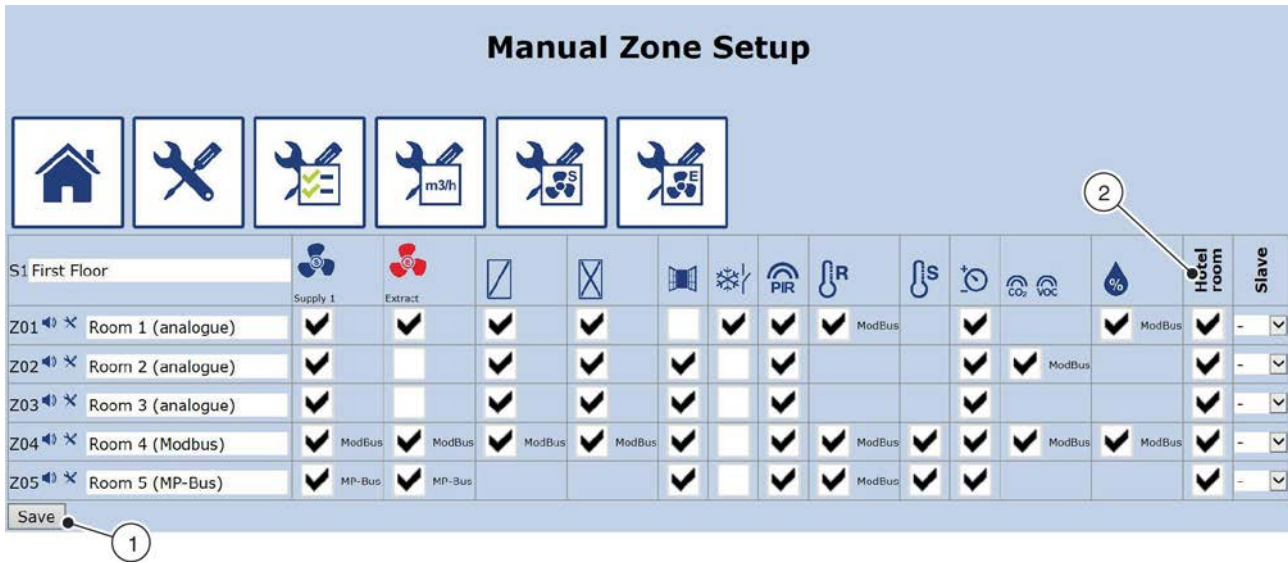

Fig. 40: Hotel mode
The 'Zone Setup' screen (Fig. 40) allows you to enable the hotel mode for individual zone modules. In hotel mode the temperature setpoint values for each guest room are reset every day to the temperature setpoint defined in the zone master. The reset time should also have been defined in the zone master. Once you have enabled the hotel mode for a zone module, the scheduling function on the room control panel is no longer active.
- ⇒ The 'Zone Setup' screen (Fig. 40) displays.
4. ▶ If you want to activate the hotel mode for a zone module, check the appropriate box (Fig. 40 /2).
5. ▶ Click on 'Save' (Fig. 40 /1).